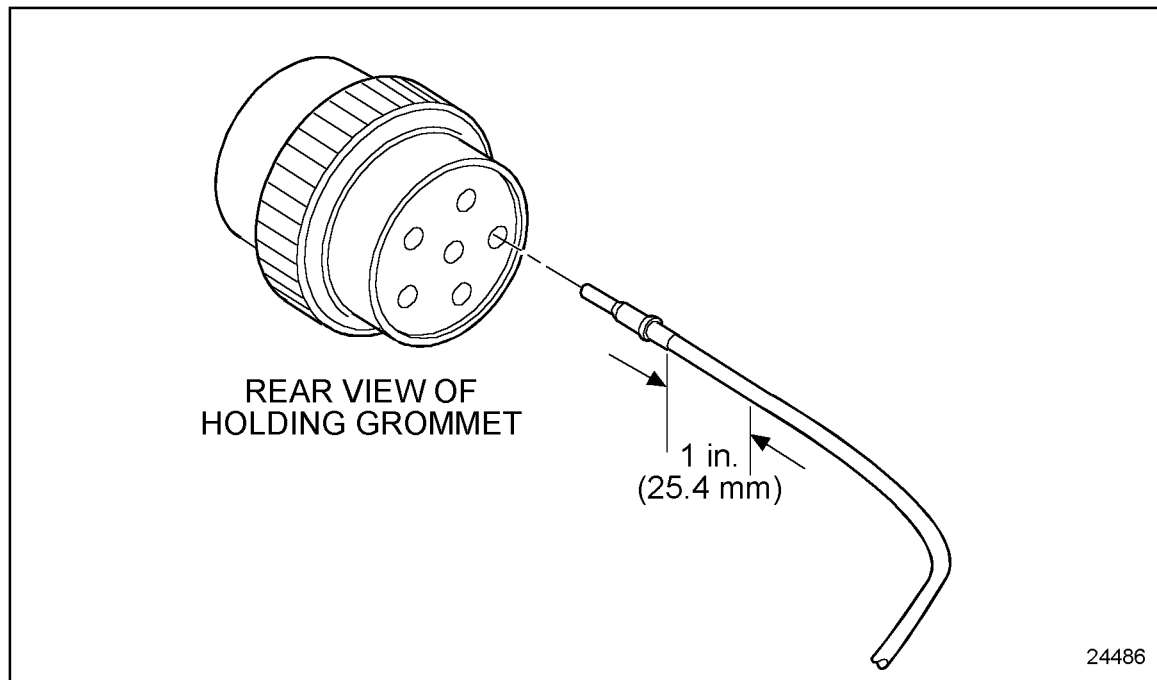
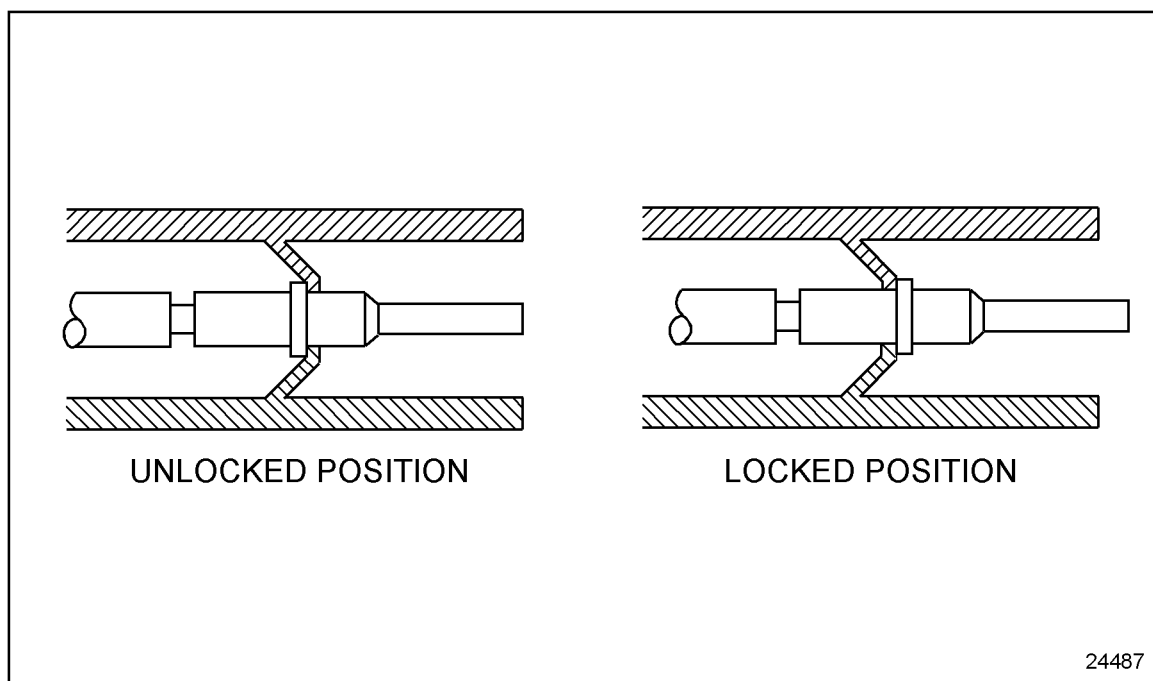

Figure 8-19 Pushing Contact Into Grommet
Figure 8-20 **Locking Terminal Into Connector**
5. Grasp the contact approximately one inch behind the contact crimp barrel. Hold the connector with the rear grommet facing you. See Figure 8-19.
6. Push the contact into the grommet until a positive stop is felt. See Figure 8-19. A slight tug will confirm that it is properly locked into place. See Figure 8-20.